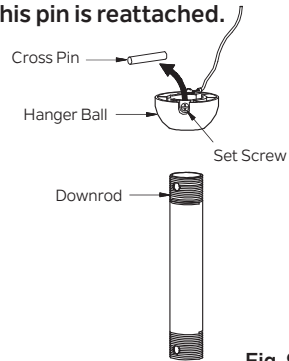

Fig. 9
**Step 6.** Remove the hanger ball from the downrod assembly by loosening the set screw, unscrewing and removing the cross pin and unscrewing the ball off the rod. (Fig. 9)